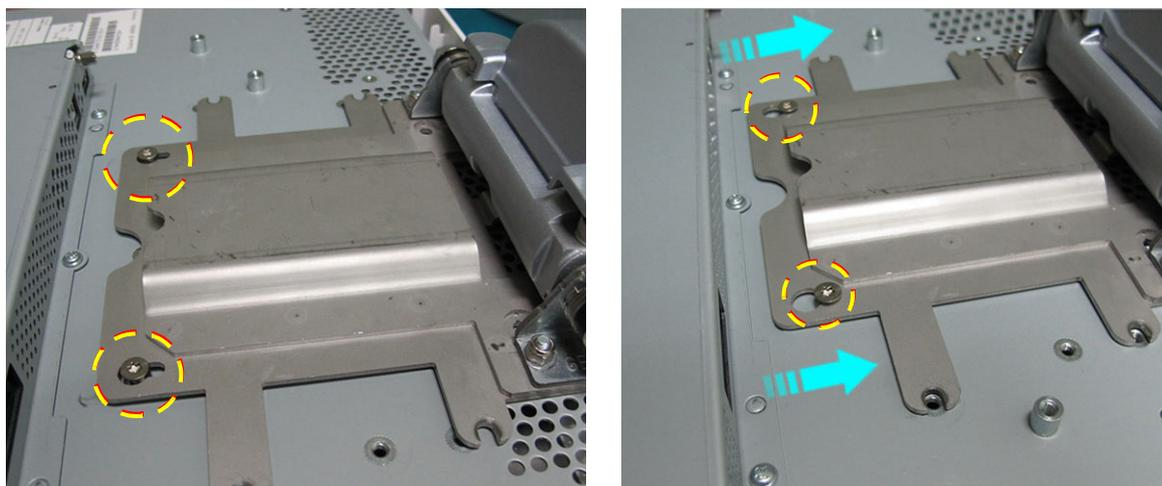

Figure 8-49 Fitting the Monitor to the Securing Bracket
- 4.) Using two hands, position the monitor beneath the securing bracket, carefully aligning the two captive screws with the two key-hole slot openings (Figure 8-49, left).
- 5.) Pull the monitor *towards* you until the captive screws are correctly positioned (Figure 8-49, right). While supporting the monitor from below with one hand, tighten the two screws.